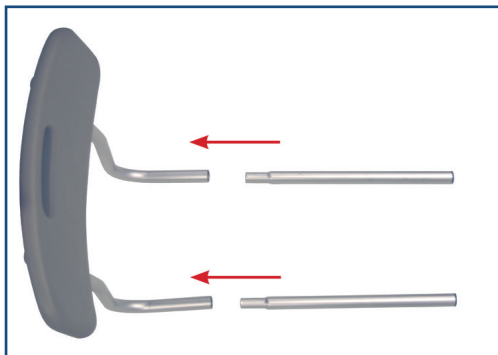

figure 5
- To assemble backrest, insert support tube into backrest support by depressing push pin and sliding into backrest tube. Repeat for second support tube (Figure 5).